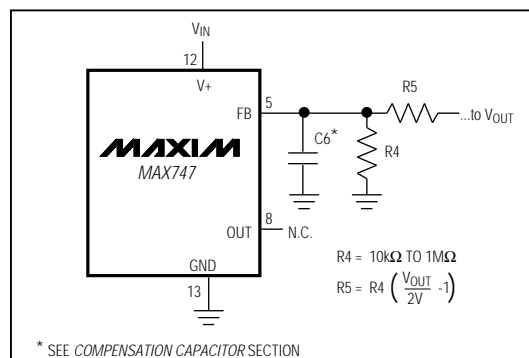

Figure 5. Adjustable Output Circuit
The MAX747's output voltage can be set to 5V by grounding FB, or adjusted from 2V to 14V using external resistors R4 and R5, configured as shown in Figure 5. Select feedback resistor R4 from the 10kΩ to 1MΩ range. R5 is given by:
**For adjustable-output operation, FB becomes the compensation input pin and CC is left unconnected. Connect C6 between FB and GND in parallel with R4 (Figure 5).** C6 is determined by: